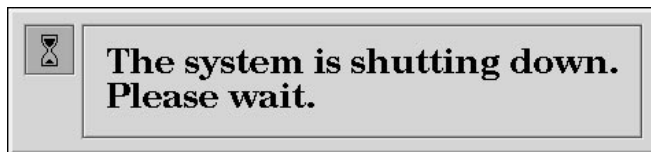

Figure 1-24 System Shutdown Notifier
3. The notifier shown in Figure 1-24 appears on your screen within a few seconds. Then the system powers off automatically within the next minute.